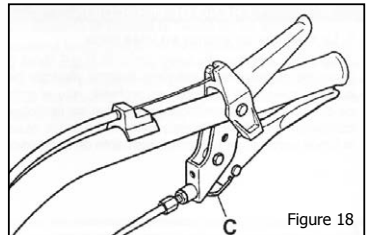

Figure 18
5. Pull up the clutch lever and lock it with the clutch lever locking pin (figure 18, C).